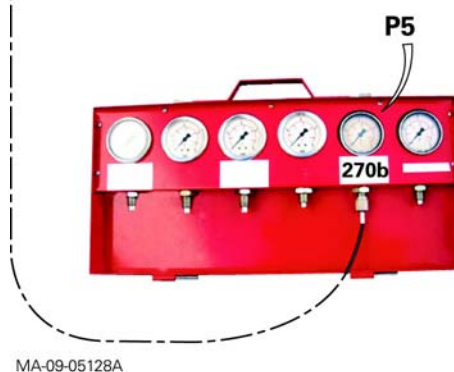

Fig. 11
- Connect a pressure gauge fitted with a coupler ref. 3582045M1 to the diagnostics connector (1) of the right-hand hydraulic cover (Fig. 11).